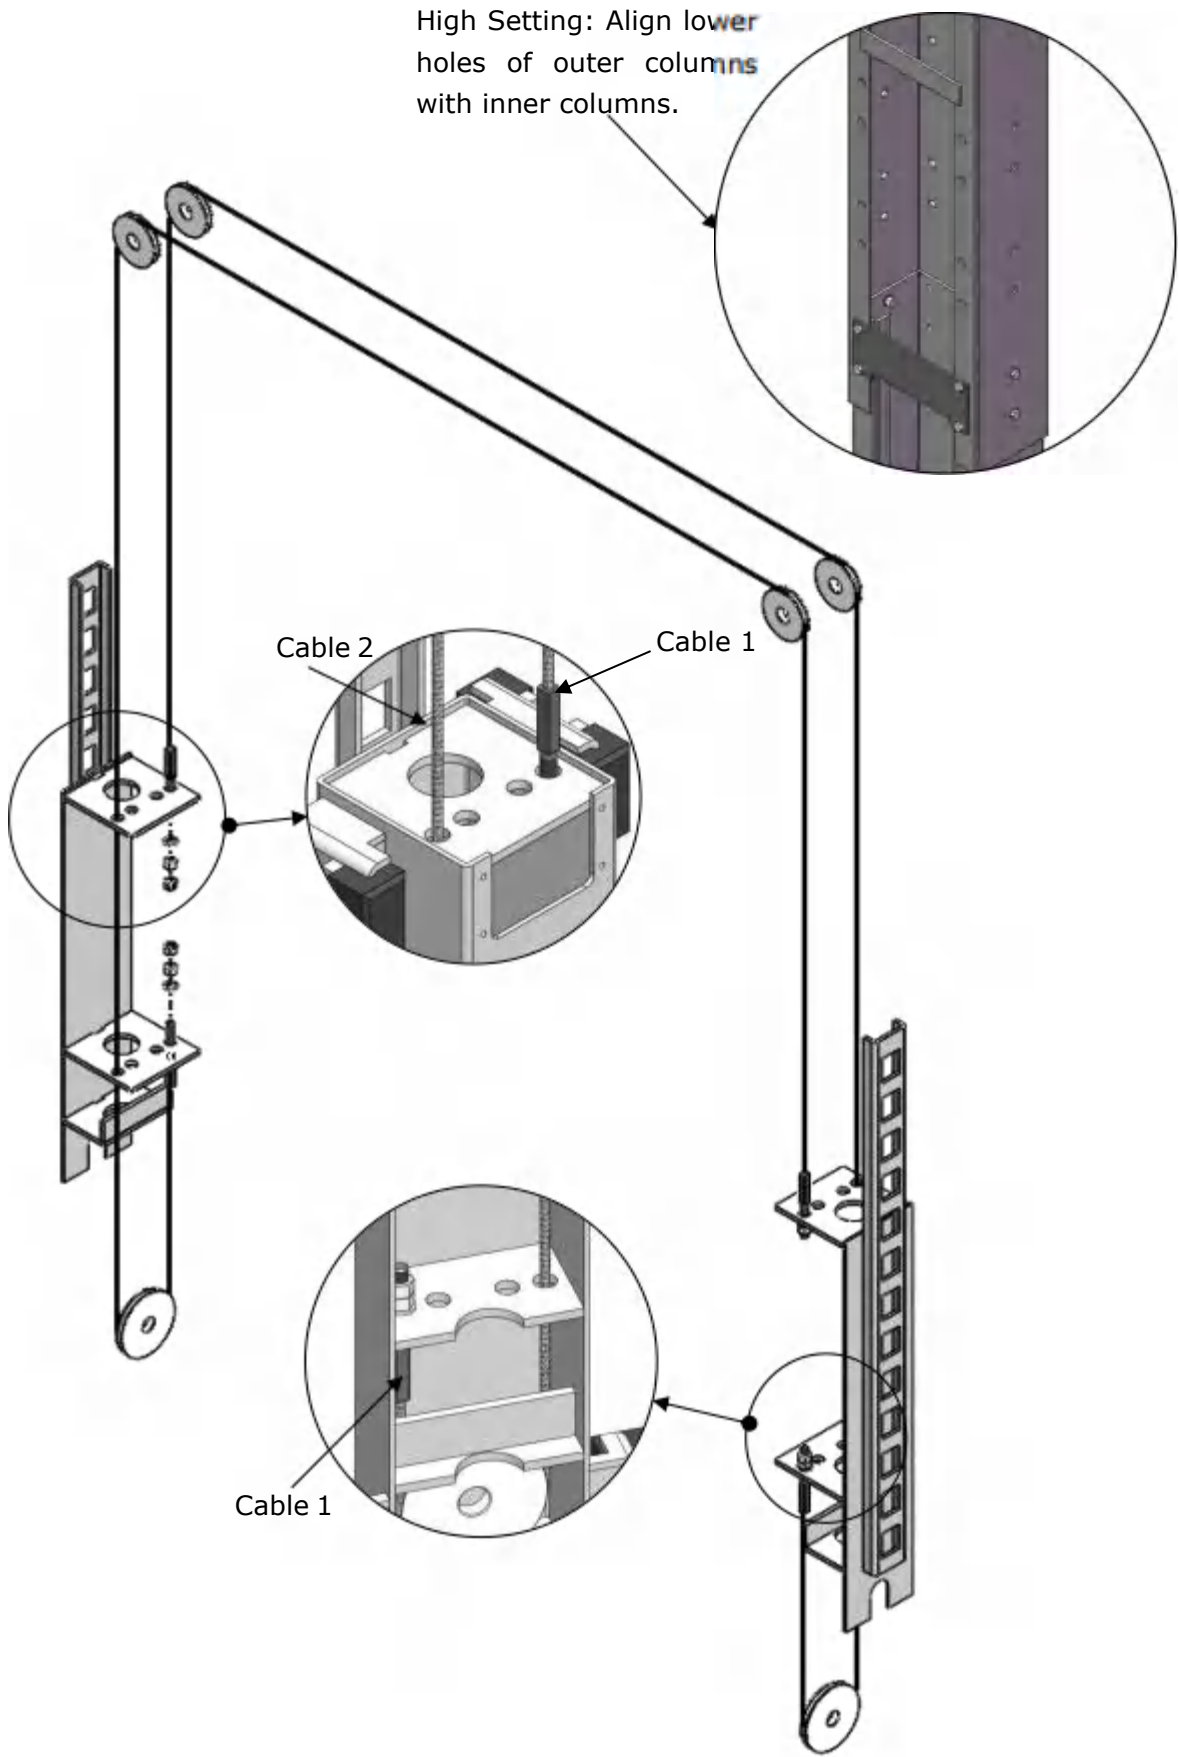

Fig.31
1.2 Connecting sync cable for high setting (**See Fig. 31**)